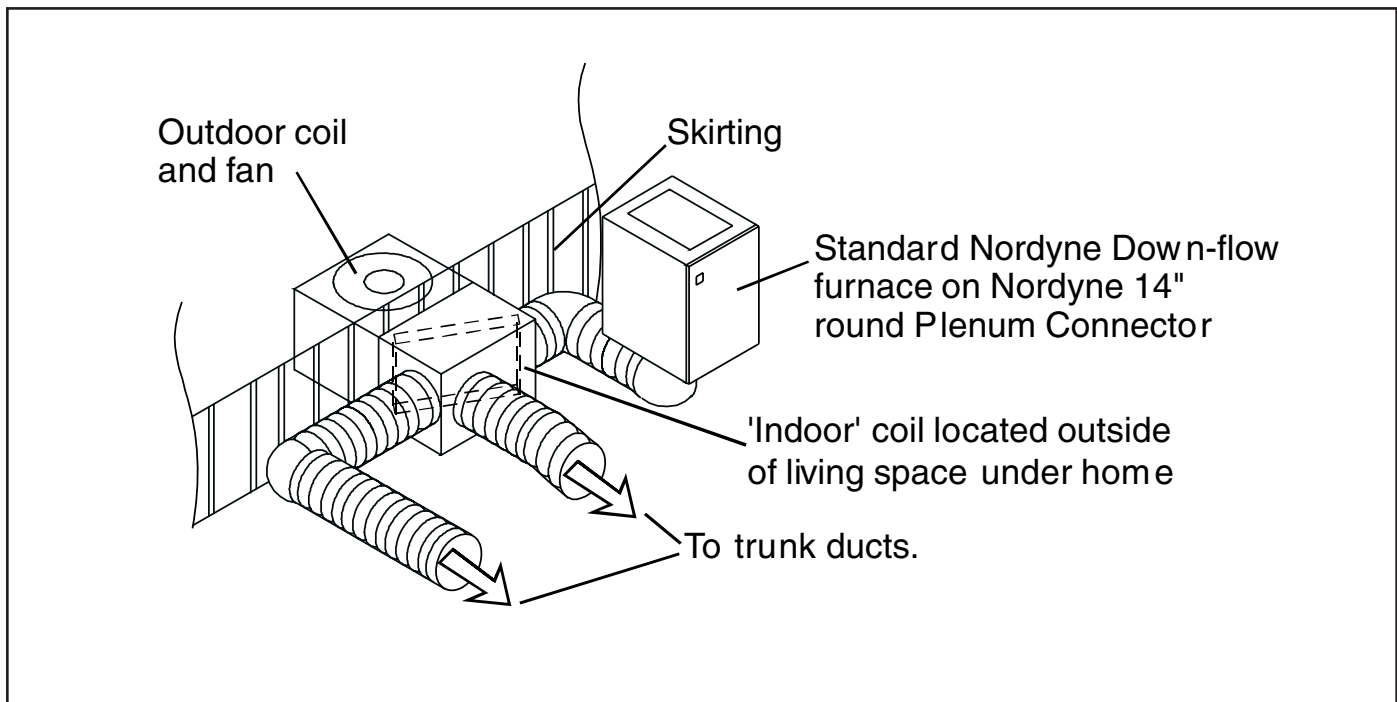

Figure 1. Platinum Overview
The Platinum concept is an approach to manufactured housing HVAC that is different than what has been traditionally available. A Platinum Series air conditioner (AC) is similar to a split system AC except that the indoor coil is in the Platinum unit instead of being field installed in the furnace. See Figure 1.